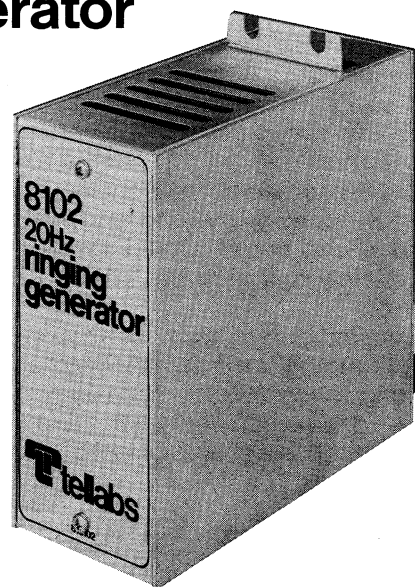

figure 1. 8102 Ringing Generator
1.01 The 8102 Ringing Generator (figure 1) provides 100Vac (nominal) sine-wave ringing voltage, at 20Hz, from a nominal -24Vdc or -48Vdc power source. The 8102's 5-watt ringing output is capable of driving up to five high-impedance telephone ringers simultaneously.